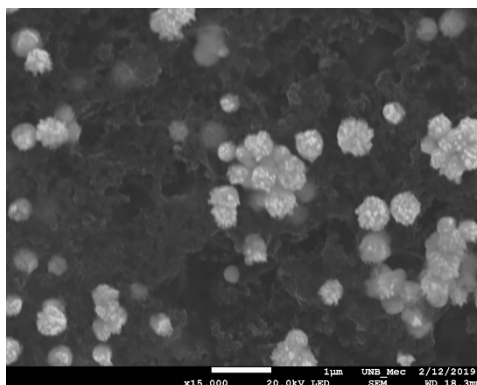
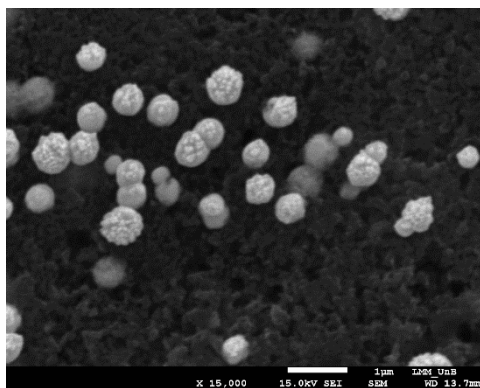

Figure S5. SEM image of the ET160100
Figure S6. SEM image of the ET160300
- Image of the ET160100 (Figure S5) electrode that presented the biggest crystallite size. As can be observed, the structure of the Pt particles is similar to the ET120300.
- Image of the ET160300 (Figure S6) electrode that also presented a large crystallite size. The structure resembles to ET120300 and Fig. S5, with a slightly larger agglomeration.